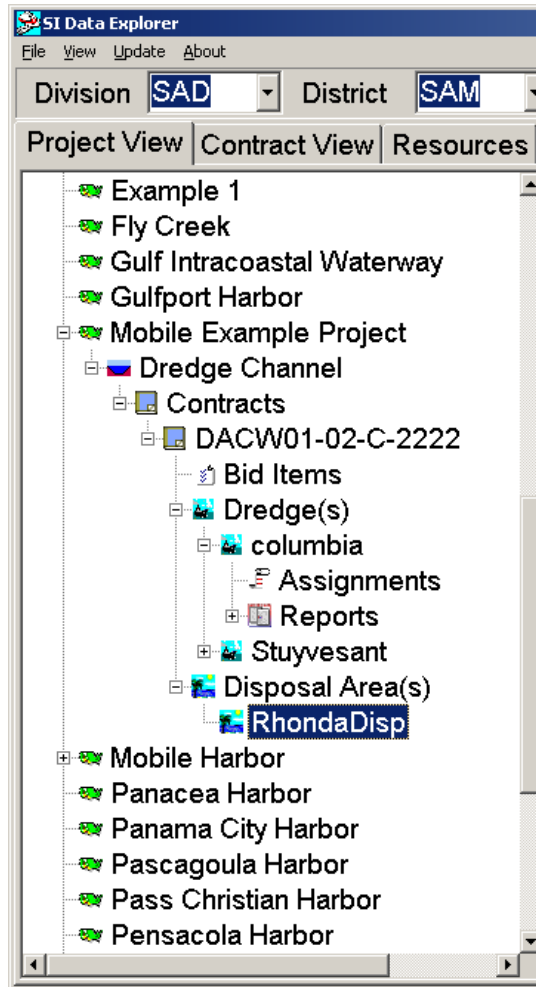

Figure 1.33 Assigned disposal area.
The assigned disposal area will now appear under the project in the Data Explorer window as in Figure 1.33.
1. Click on the disposal area to be modified as shown in Figure 1.33.